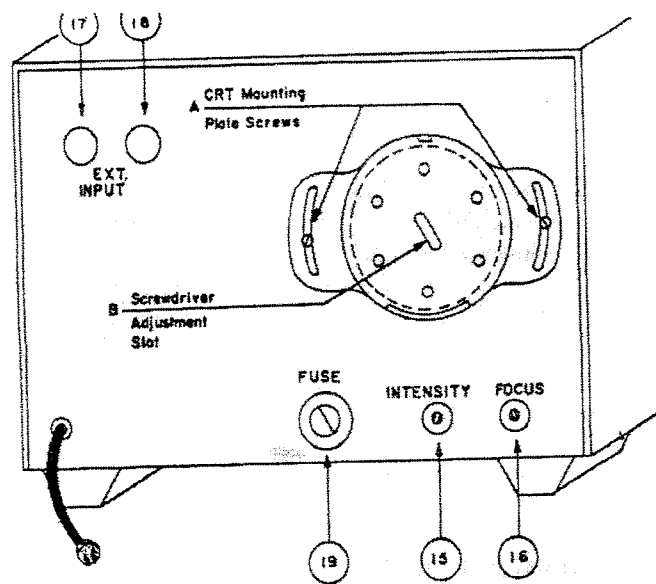

Fig. 2 Rear of oscilloscope
With the SOURCE selector (5) in the INTERNAL position the triggering signal is derived from the signal being displayed. If the SOURCE selector is in the EXTERNAL position the triggering pulse is derived from a signal input to the EXTERNAL INPUT jack on the back of the scope (17 in Fig. 2).
This is not a triggering mode. When the MODE selector switch is in the X-Y position, the sweep circuits are disconnected from the horizontal amplifier and an external signal may be applied to the horizontal circuits through the EXT INPUT (17 on Fig. 2). For use of this function see the procedure on relative measurements in this instruction manual.